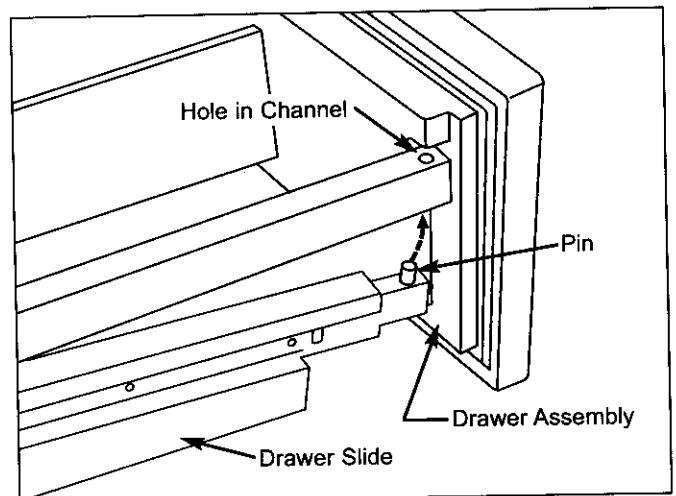

Figure 7-2. Drawer Assembly Removal
There are inverted channels on both sides of the drawer tubs which rest on telescoping drawer slide assemblies. A pin at the front of each drawer slide fits into a hole in the inverted channel of each drawer tub, holding the drawer assembly in place. (See Figure 7-2)
2. Lift front of drawer up and off of pins at end of drawer slides, then push slides back in (See Figure 7-2).
1. Pull bottom drawer open and lift front up and off of pins at end of drawer slides (See Figure 7-2).